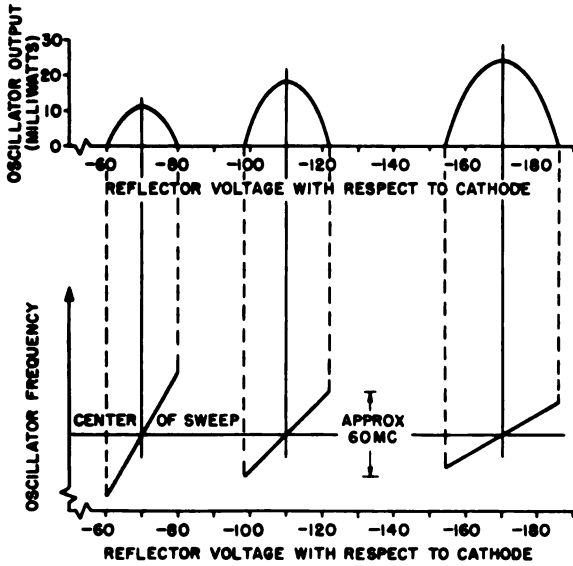

Figure 2-21. Reflex Klystron Characteristics
(2) There are two methods of tuning a reflex klystron tube. The first is to tune it mechanically by varying the volume of the resonator chamber. The tube is mechanically tuned by turning the square-headed nut mounted on it and is covered by about 3¼ turns of the SIGNAL FREQUENCY knob.
(3) The other method of tuning the oscillator is to vary the reflector voltage. When the voltage is correct, the transit time and bunching of the electrons will sustain oscillation at the natural resonant frequency of the cavity. If the reflector voltage is varied slightly, the rate at which electron bunches arrive at the resonator cavity will change. This will cause a change in frequency, and also the power will drop as the frequency moves away from the natural resonant frequency of the cavity. (See figure 2-21.) Varying
(4) As its reflector voltage is varied, the tube will oscillate in different modes, the four lowest corresponding roughly to reflector voltages of minus 30, minus
75, minus 110, and minus 170 volts with respect to the cathode. The relation of power output and frequency to reflector voltage is shown for three modes in figure 2-21. These curves are general, and not precise for any one tube of the 2K25 type. They indicate that the power output of the tube is greater in the modes with more negative voltage on the reflector. However, the range of frequency sweep within each mode decreases with increasing negative reflector voltage. Between the half-power points of the minus 75 volt mode, the frequency range is approximately 60 megacycles. In the 110 volt mode, the frequency range is approximately 35 megacycles, and in the 170 volt mode, it is approximately 25 megacycles. Frequency data for the 30 volt mode have not been determined accurately because of erratic and un dependable behavior. The reflex klystron 2K25 used in Test Set TS-147D/UP does not use the full range of the available frequency excursion described in the foregoing data. (See par. 3d (3) and (4).)